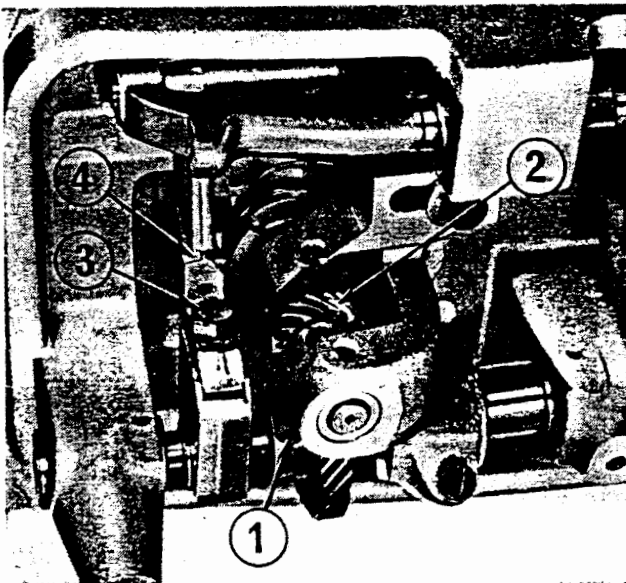
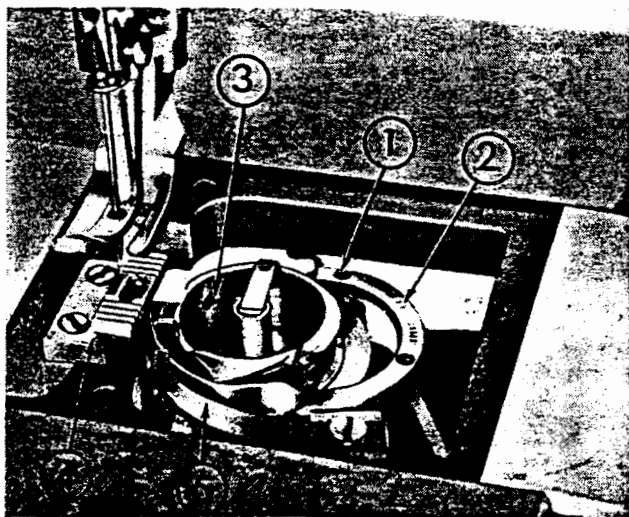

Fig. 22.
Fig. 23
When the timing of the needle bar and the blade point is matched wrong, rotate the hand wheel towards the operator and set the height of the needle bar with the above-mentioned method. Then, loosen the 2 screws of the large mitre gear (Fig. 23 ①), move the mitre gear to right or left, rotate the sewing hook and match it with the center of the needle and re-tighten the 2 screws. At this point, the sewing hook is firmly set to the small mitre gear (Fig. 32 ②).
#### 6. Removing the bobbin case from the sewing hook (Fig. 23)
Remove the 2 small screws Fig. 23 ①) from the sewing hook, open the hook gib Fig. 23 ②) as shown in Fig. 22 and take out the bobbin case (Fig. 23 ③).
Slide open the slide plate, remove the needle plate, feed dog (Fig. 23 ④) and the sewing hook guide latch (Fig. 23 ⑤).
Then, tilt the machine head backwards, loosen 2 set screws of the hook driving pinion (Fig. 22 ②) and remove the sewing hook by knocking the bottom of the spindle of the hook lightly by a screw driver.
To adjust the height of the feed dog, first, remove the needle plate, clean up any thread hards around the feed dog and install the needle plate to the bed. Next, tilt the machine, rotate the hand wheel toward the operator and bring the feed dog to its highest position. Then, loosen the screw of the feed bar fork (Fig. 22 ③), slide the feed bar (Fig. 22 ④) up and down and after adjusting, firmly tighten the screw.